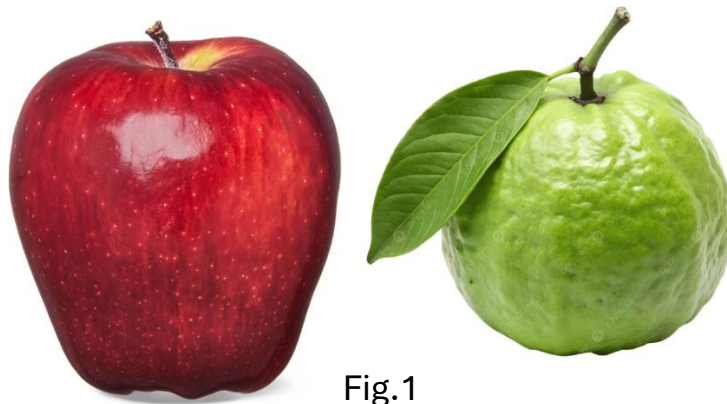

Fig.1
**Task 1: Apple/Guava (irregular geometry) shown in Fig. 1: Find the scanned file attached in Moodle**